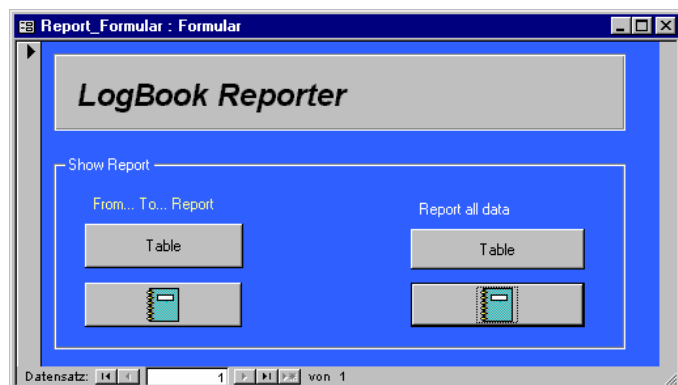

Fig. 15-2: LogBook Reporter
- Using the Logbook Reporter (see Fig. 15-2), you can choose between a time-limited extract from the existing logbook data and a report on all existing logbook data.